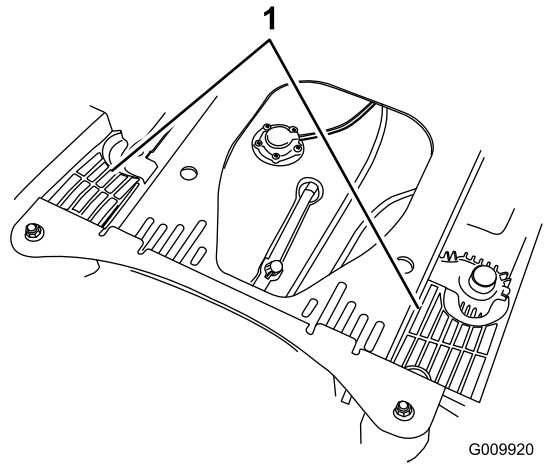

**Figure 70**
Before each use remove any build-up of grass, dirt or other debris from the engine screen. This will help insure adequate cooling and correct engine speed and will reduce the possibility of overheating and mechanical damage to the engine (Figure 70).
3. Remove the air intake screen, recoil starter and fan housing (Figure 70).
5. Install air intake screen, recoil starter and fan housing (Figure 70).